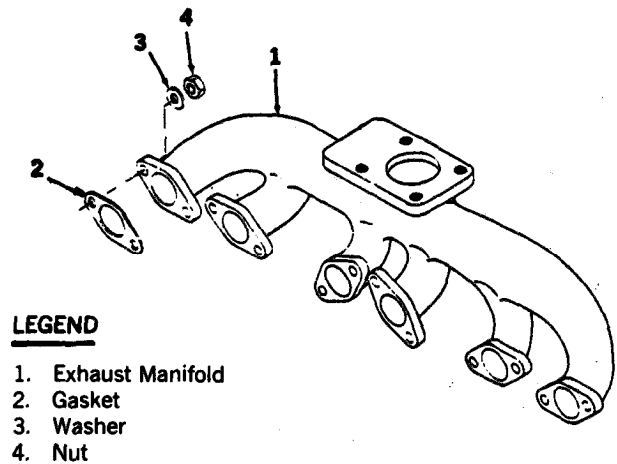

Figure 3-14. Exhaust Manifold
- b. Remove nuts (4, figure 3-14), washers (3), and exhaust manifold (1) with gaskets (2).
- a. Install exhaust manifold (1, figure 3-14) with new gaskets (2).
- b. Install nuts (4) and washers (3). Start at center of manifold and torque each nut in progressive steps from 30 to 40 foot-pounds.